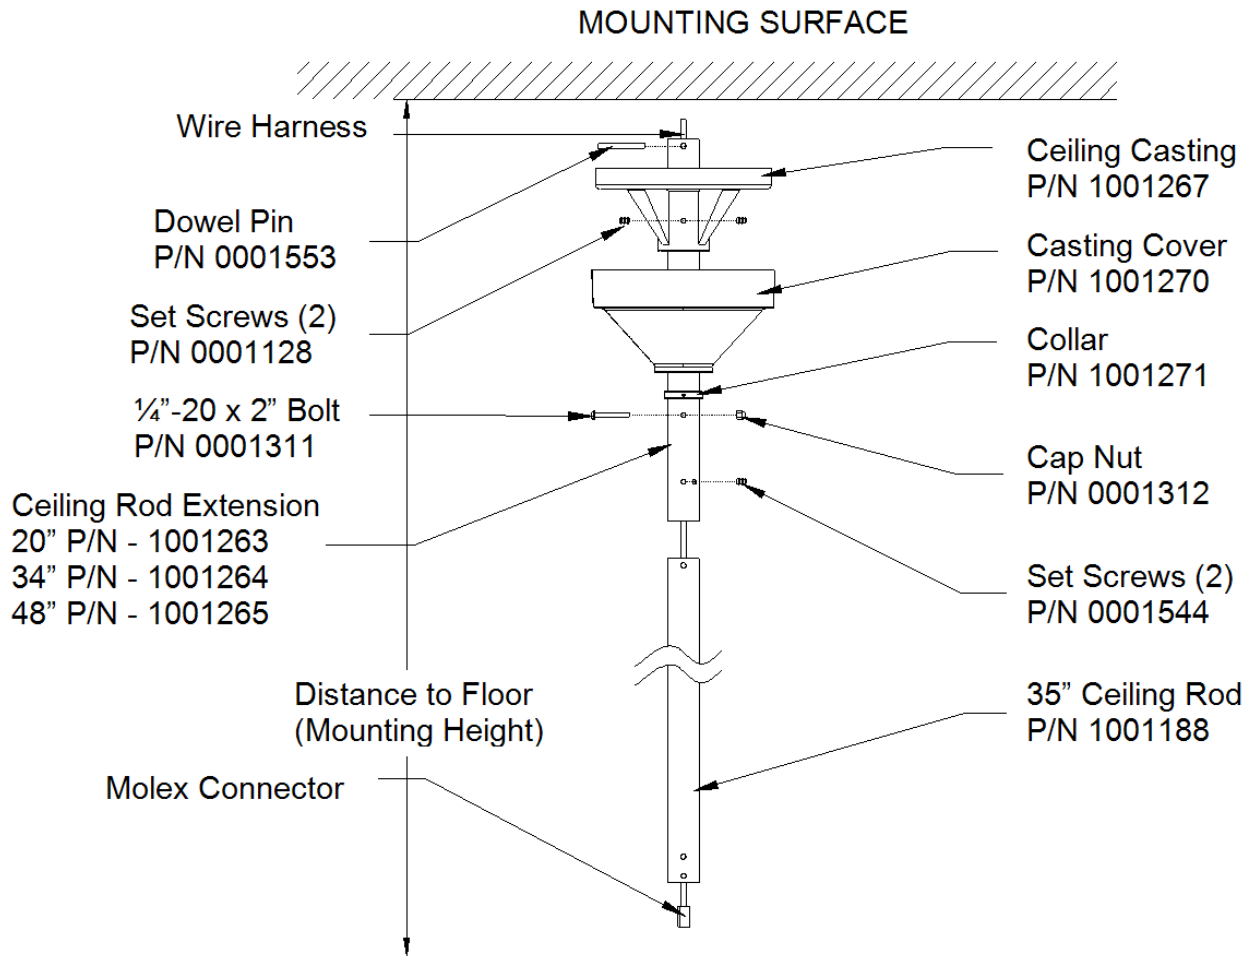

Figure 5. Extended Ceiling Mount Installation
- Figure 5. Extended Ceiling Mount Installation). Insert the dowel pin into the hole in the ceiling rod and lower the rod in the ceiling casting, making sure the pin is seated securely in the indentation on the ceiling casting. Securely tighten the two set-screws located in the casting.